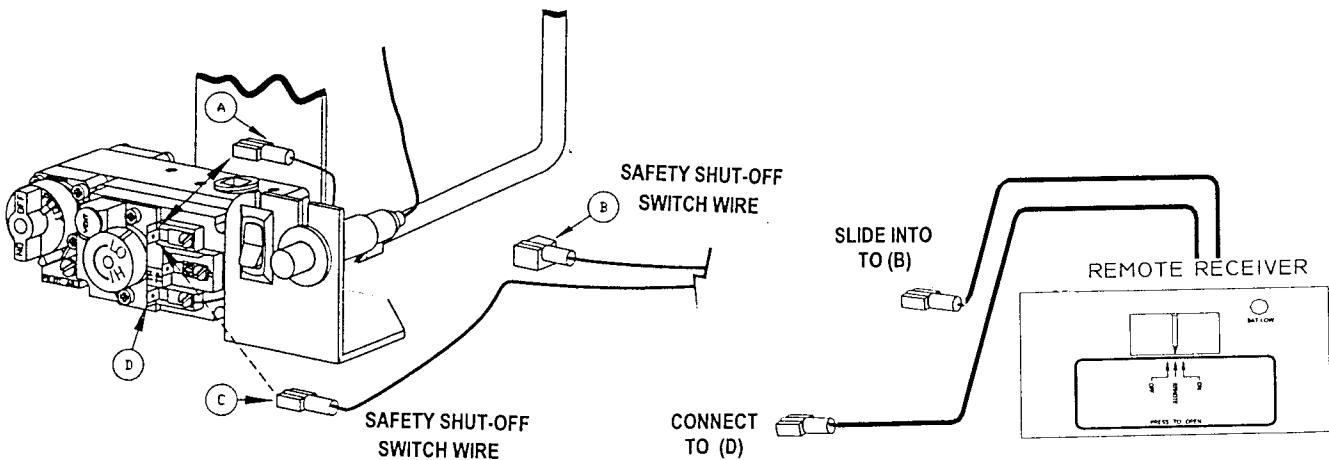

FIG. 6
G) WALL SWITCH - REMOTE CONTROL INSTALLATION (opt.) See Fig 6.